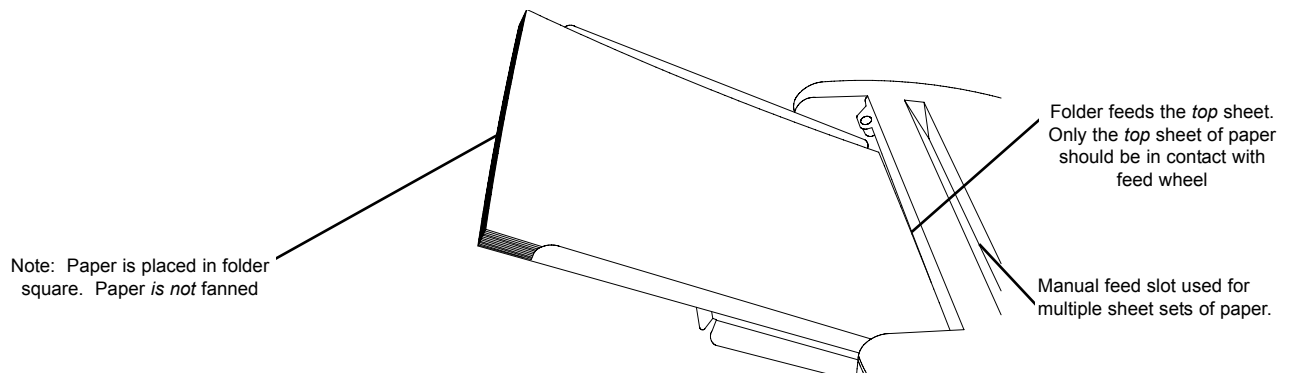

Figure 13
3. Place the paper into the manual feed slot on the top of the machine (as shown in Figures 13 and 14).